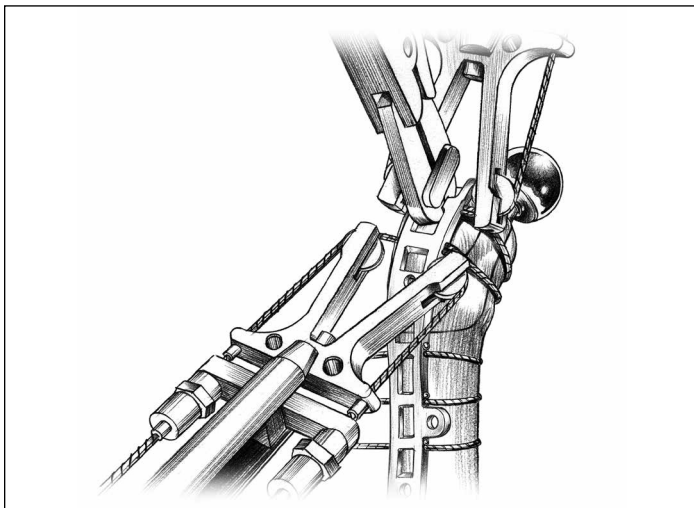

Figure 2
7. Crimp the bridges of the Grip/Grip Plate after desired tension is obtained (**Figure 2**). The order of crimping is not important. It may be necessary to remove soft tissue adjacent to the bridges in order to ensure proper location and seating of the Crimp Tool's jaws.